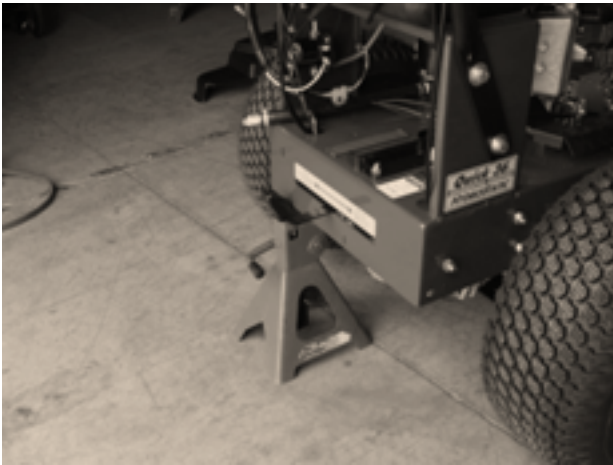

Figure 73
1. Support the rear of machine securely with a jack stand (making sure not to rest on the transaxle lever) so the wheels are off the ground **Figure 73**.